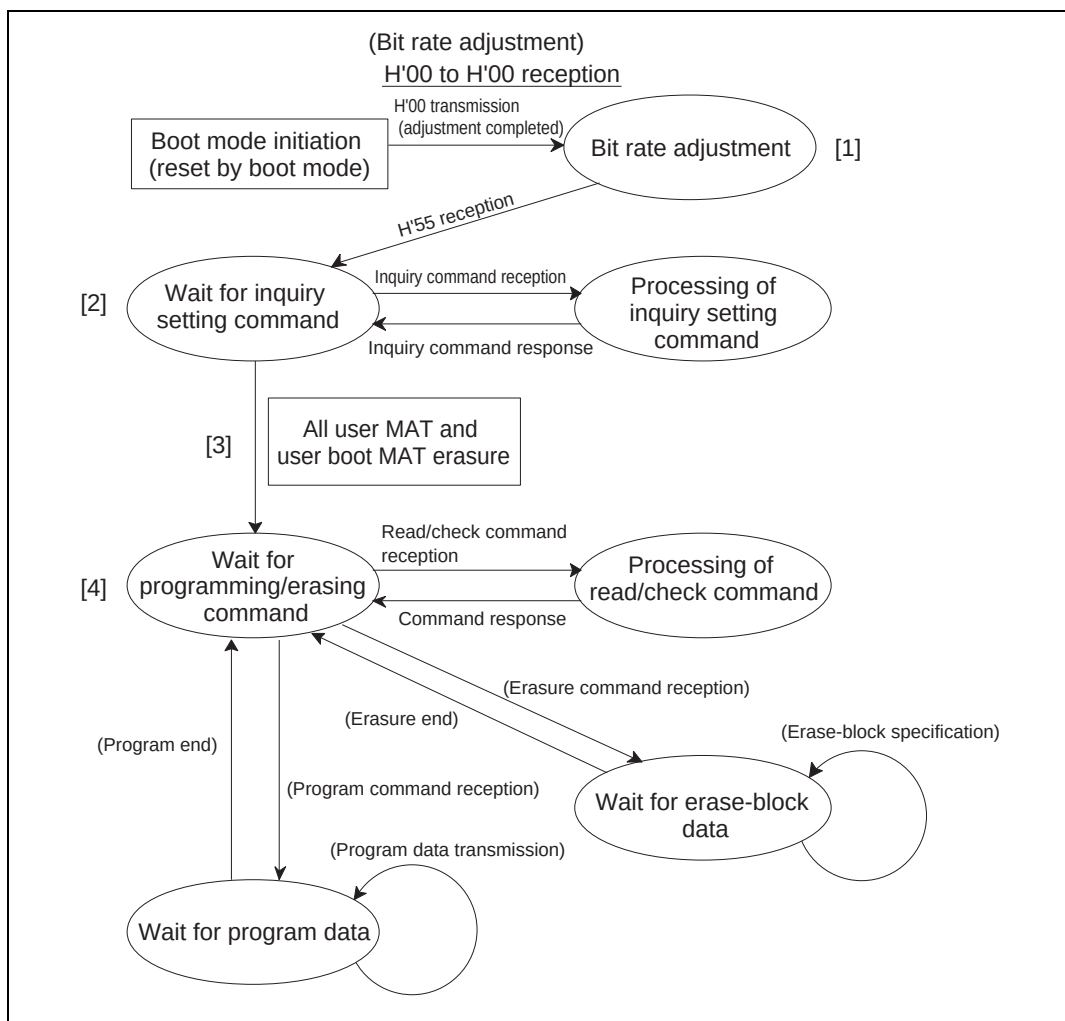

**Figure 17.67 Overview of Boot Mode State Transition**
**State Transition:** The overview of the state transition after boot mode is initiated is shown in figure 17.67. For details on boot mode, refer to section 17.29.1, Serial Communications Interface Specification for Boot Mode.